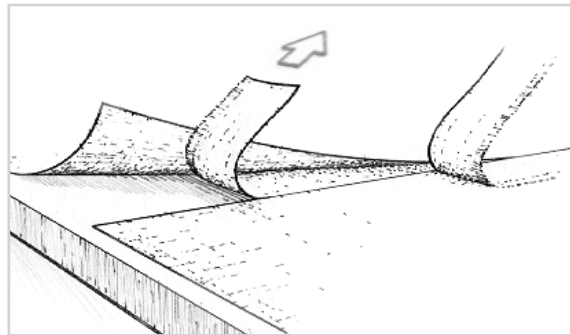

Figure 16-21 Remove the topmost trimming. Then lift the opposite cut edge to remove the overlapped trimming.
- c) Remove the topmost trimming and then lift the opposite cut edge to remove the overlapped trimming (Figure 16-21).